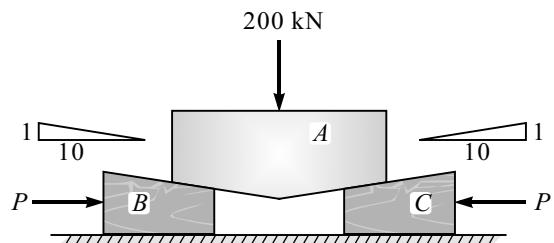

Fig. 8.E37
38. A horizontal force of 5 kN is acting on the wedge, as shown in Fig. 8.E38. The coefficient of friction at all rubbing surfaces is 0.25. Find the load W which can be held in position. The weight of block B may be neglected.